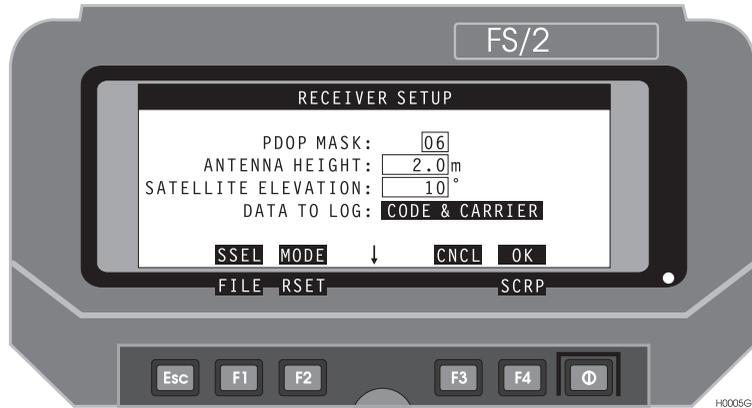

Figure 3.4: Receiver Setup Screen
3. In the GIS Main Menu, press a shift key, then **F2 (RCVR)**. The Receiver Setup screen appears, as shown in Figure 3.4.